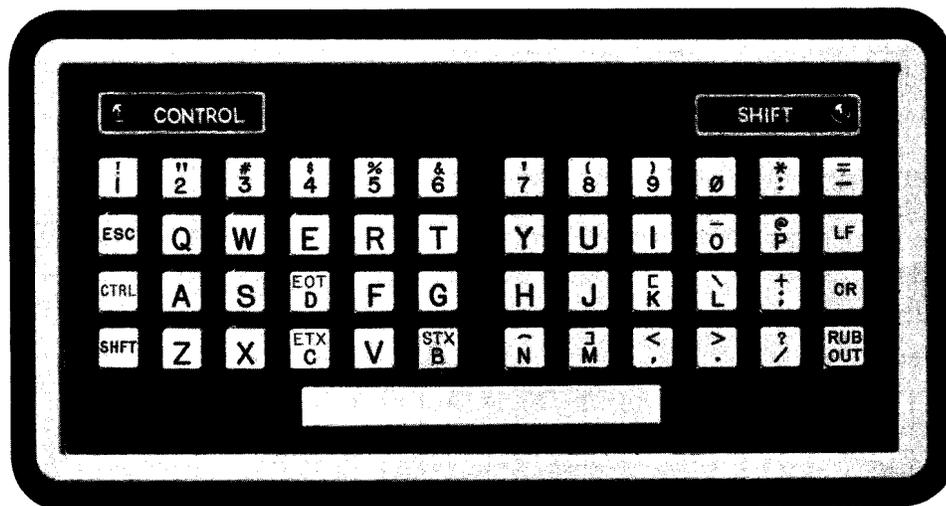

Figure 4, Alphanumeric Keyboard Front Panel
2.01 The keyboard (shown in Figure 4) consists of a 49-button pad, four rows of twelve buttons plus a space bar, with two indicator lights and internal modulation electronics. Its components are packaged in a molded beige-colored case with beige buttons set in a black front panel.